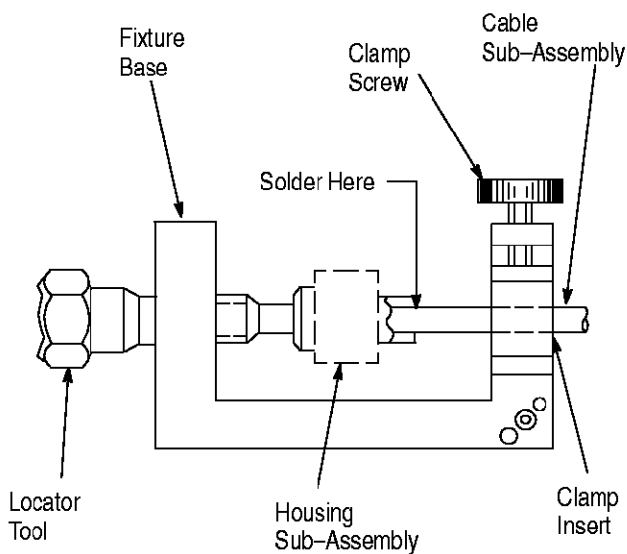

Figure 5
2. Loosely place the the assembly in the fixture base as shown in Figure 5.